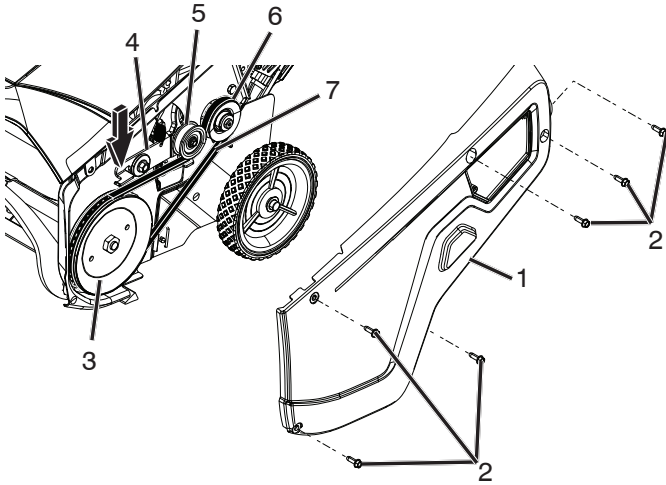

Figure 30
1. Remove the drive side cover by removing the six screws as shown in (Figure 30).